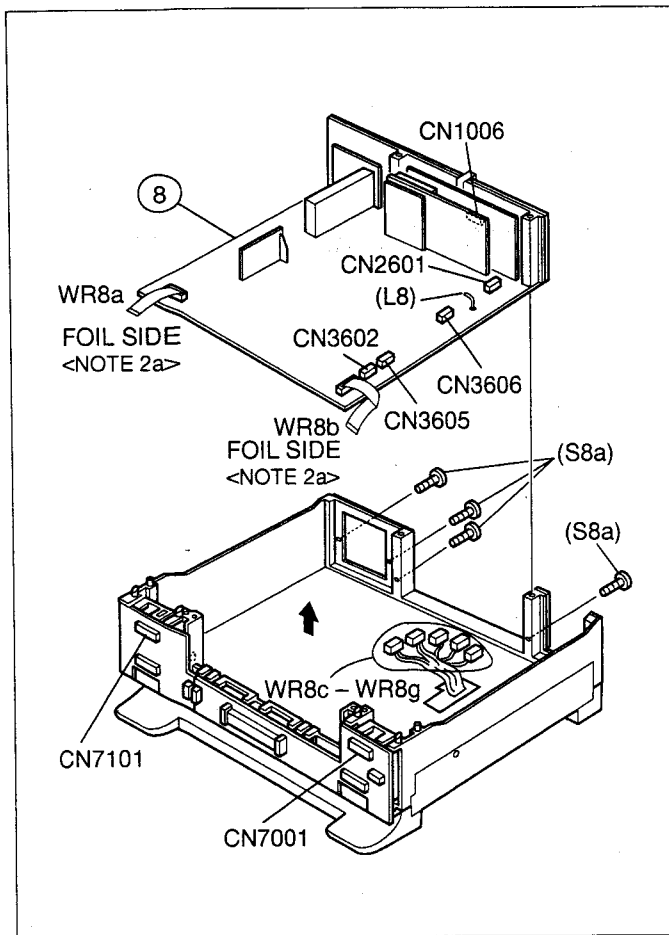

Fig. D8
- (1) Remove the Top cover, SWITCHING REGULATOR board assembly and Front panel assembly. (See DISASSEMBLY/ASSEMBLY METHOD.)
- (2) Remove the flat wires CN7101 on the JACK board assembly, CN7001 on the DISPLAY board assembly. (See Fig.D8 of DISASSEMBLY/ASSEMBLY METHOD.)
- (3) Remove the wires CN3602, CN3605, CN3606 and CN2601 on the MAIN board assembly. (See Fig.D8 of DISASSEMBLY/ASSEMBLY METHOD.)
- (4) Remove the flat wire CN1006 on the 3D SVHS board assembly. (See Fig.D8 of DISASSEMBLY/ASSEMBLY METHOD.)